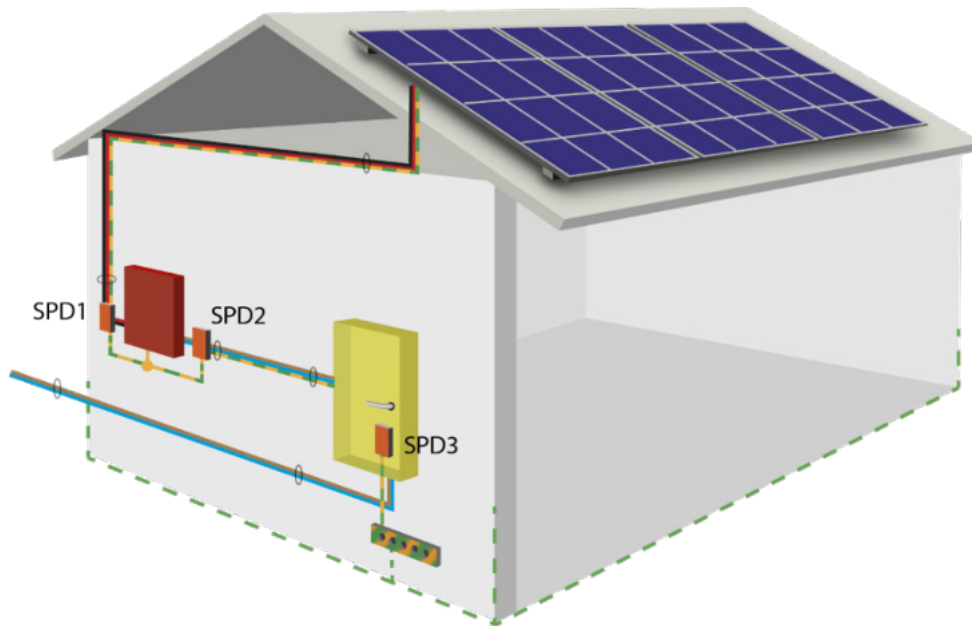

Figure 3. Building without LPS with Roof Mounted Panels
This is by far the most common case where a building has no external LPS and so the risk of a direct lightning strike is not considered. This is the configuration that applies to 95% of residential solar PV installations in Australia. Figure 3 shows a building with roof mounted solar array and inverter mounted near the main switchboard. Normally the inverter would be mounted close to the main switchboard and in a location that is readily accessible, in accordance with AS/NZS5033.
2. Install an SPD on the DC input to the inverter (SPD1 in figure 3). This SPD must be specifically designed for DC PV applications. AC SPDs are unsuitable and could present a hazard under fault conditions.
3. Install an SPD on the AC output of the inverter (SPD2 in figure 3). Whilst a shunt type surge diverter is suitable, more effective protection can be obtained by using a series connected shunt diverter, like the Novaris SSP, which eliminates the detrimental effects of lead inductance.
5. Install an SPD on the incoming AC supply in the main switchboard (SPD3 in figure 3). A rating of $I_{max} = 50kA$ is suitable for most applications, 100kA should be used if the exposure is high.